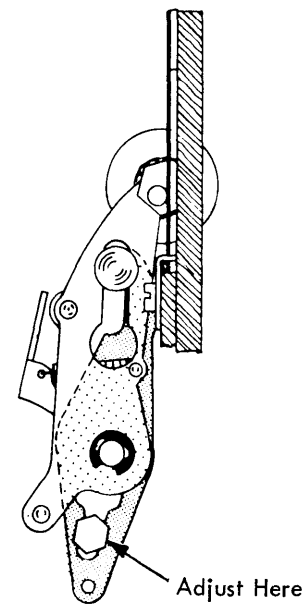

FIGURE 59. Rotate Arm Movement
10. **Rotate Arm Motion** - The adjustable plate on the bottom of the rotate arm (Fig. 59) should be adjusted up or down so that a half-cycled upper case letter "W" (+5) detents the same as a half-cycled upper case letter "R" (-3). When observing the detenting remove the head play lightly in the negative direction.